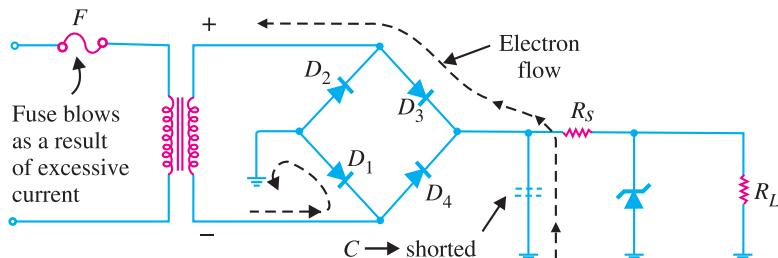

Fig. 6.71
**Example 6.35.** Fig. 6.71 shows regulated power supply using a zener diode. What will be the circuit behaviour if (i) filter capacitor shorts (ii) filter capacitor opens?
(i) **When filter capacitor shorts.** When the filter capacitor shorts, the primary fuse will blow. The reason for this is illustrated in Fig. 6.71. When the filter capacitor shorts, it shorts out the load resistance  $R_L$ . This has the same effect as wiring the two sides of the bridge together (See Fig. 6.71).